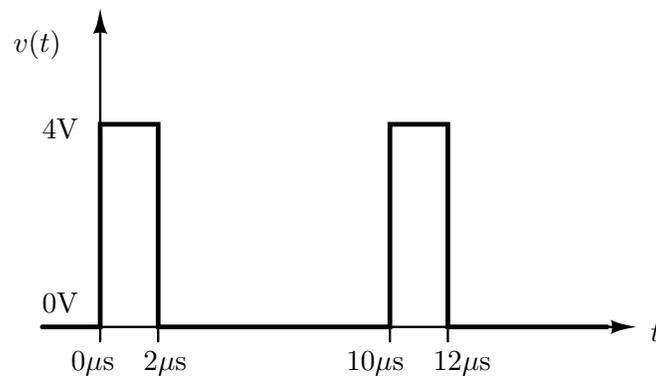
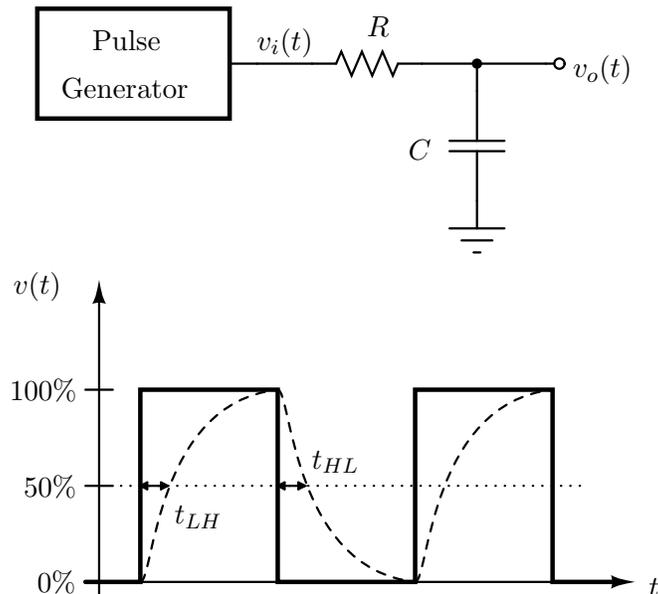

Figure 3:
Figure 5:
3. Connect the pulse generator to the scope using a coaxial cable with each end terminated in a BNC connector. Display the waveform shown in Figure 3 on the scope screen. The waveform shown in Figure 3 is an idealization. In particular, a perfect rectangular (rising and falling edges) waveform cannot be produced by the pulse generator. Use the VOLTAGE key to find V_{pp} , V_{avg} , V_{rms} , V_{max} , V_{min} , V_{top} , and V_{base} . Use the TIME key to find Freq(ueency), Period, Duty Cy(cle), +Width, –Width, RiseTime, and FallTime.
5. Construct the circuit shown in Figure 5, using a $1\text{ k}\Omega$ resistor for R and a 47pF capacitor for C . Set the pulse generator to output the waveform depicted in Figure 3. Use the dual trace capability of the oscilloscope to measure the delay of the RC circuit. We will define the delay as the time from when the input voltage changes until the time when the output wave form has switched halfway from its initial to its final voltage levels. Measure both the low-to-high delay, t_{LH} , and the high-to-low delay, t_{HL} .